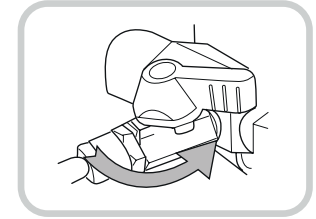

Fig. 1
1. Close the Water Inlet Valve. (Fig. 1).